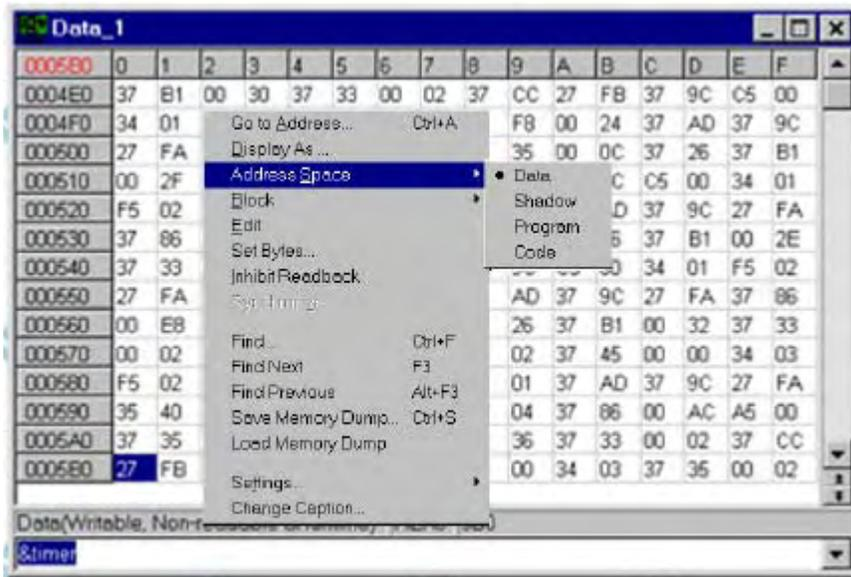

Figure 61. Data Window Menu
3. Right-click the Data window. The **Data Window** menu appears (Figure 61).